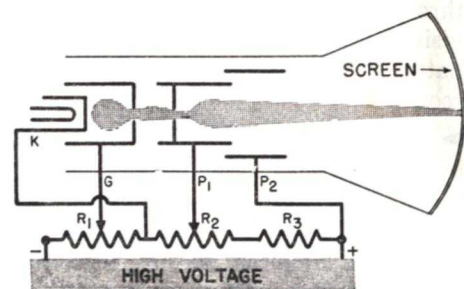

FIG. 2. How the electron beam is obtained.
► Thus, as shown in Fig. 2, the electrons are emitted by the cathode, are controlled as to quantity by the adjustable negative potential on the grid, are accelerated and made to emerge from a small hole by the first anode, are further accelerated by the second anode, and are "focused" so that, after traveling the length of the tube, they come together in a small spot on the screen at the end of the tube. The potential on P_1 is variable so that an exact focusing of the beam at the screen can be obtained.